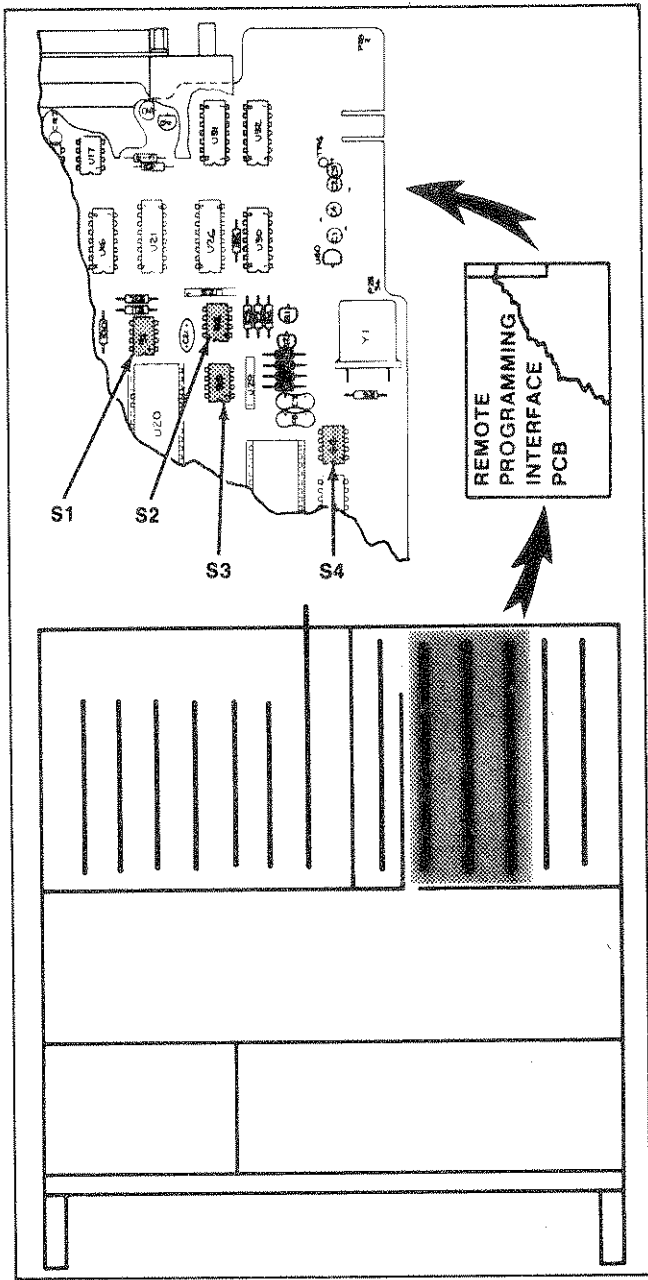

Figure 617-2. Remote Programming Interface PCB, Installation and Switch Locations
any one of the data logger I/O slots shown in Figure 617-2. Use the following procedure to install the pcb:
3. Locate S3 on the pcb as shown in Figure 617-2. This switch is used to establish the format of transmitted data.
5. Locate S4 on the pcb as shown in Figure 617-2. This switch is used to establish the baud rate of both transmitted and received data.
7. Locate S2 on the pcb as shown in Figure 617-2. S2 is used to assign a unique address code to the pcb. This code allows the pcb to ignore all command (data) strings that are not preceded by the code.
9. Locate S1 on the pcb as shown in Figure 617-2.